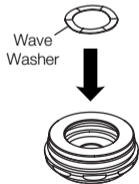

Fig. 8
(2) Mounting Cartridge
- ① Set the wave washer in the head cap. Direction doesn't matter. (Fig. 8)